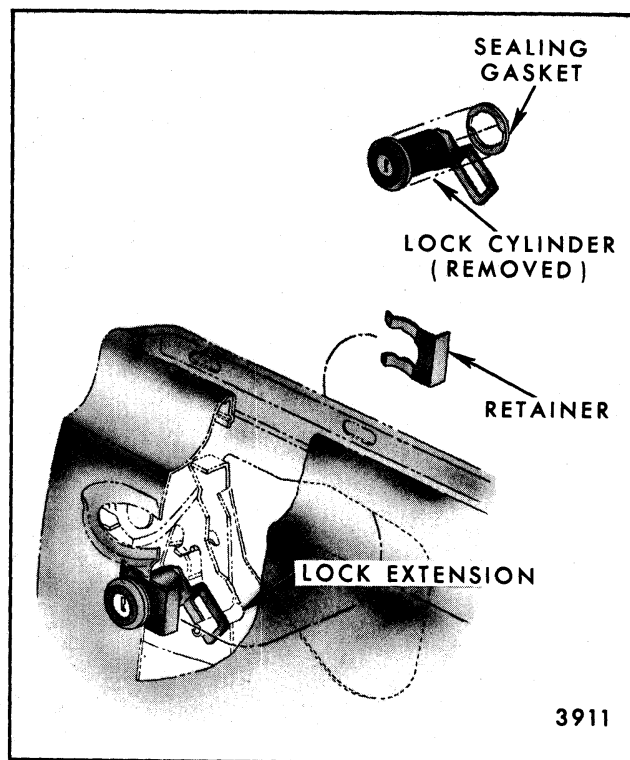

Fig. 5-92-Door Lock Cylinder Removal
slide lock cylinder retaining clip (on door outer panel) out of engagement and remove lock cylinder from door (Fig. 5-92).
2. Remove attaching screw in base of mirror and mounting bracket to door outer panel attaching screws (Fig. 5-92). Then remove mirror and cable assembly from door.